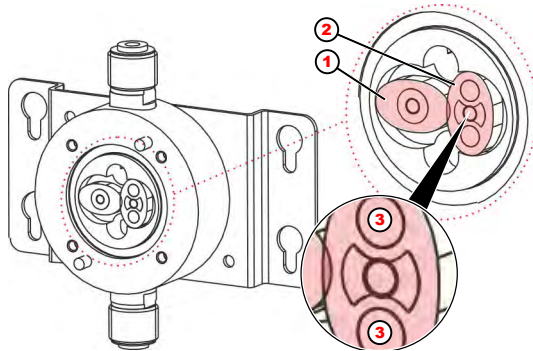

Fig. 6: Ovalradzähler
*The oval gear wheels must be inserted in such a way that they are offset exactly 90° to each other (Fig. 6, pos. 1 + pos. 2) .*
1. ➔ Install oval gear wheels after cleaning / replacement 90° offset to each other (Fig. 6, pos. 1 + pos. 2) .
The oval gear wheel with the welded magnets (Fig. 6, pos. 2) must be positioned under the sensor in the cover. The plates on this oval gear wheel must point downwards!